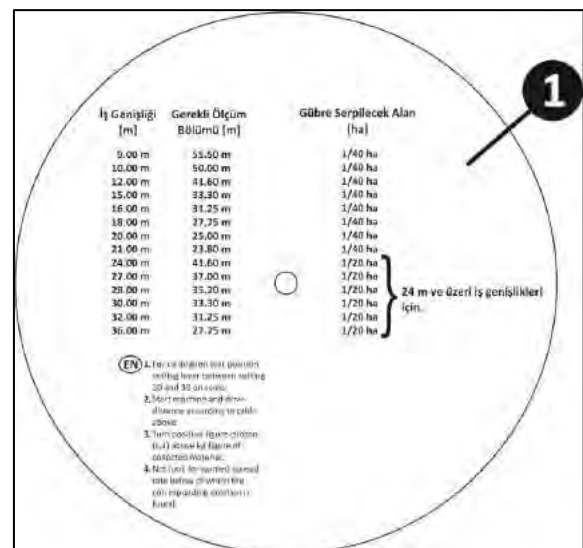

Fig. 38
- Required Measurement Parts [m] (Fig. 38/1).